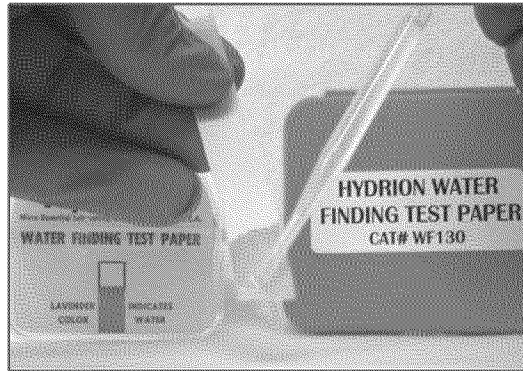

Figure 1. Positive Indication for the Presence of Water (Color Pink)
- d A positive result for the presence of water is indicated by a lavender or pink color change on the water finding paper. Figure 1 shows a positive result for the presence of water.